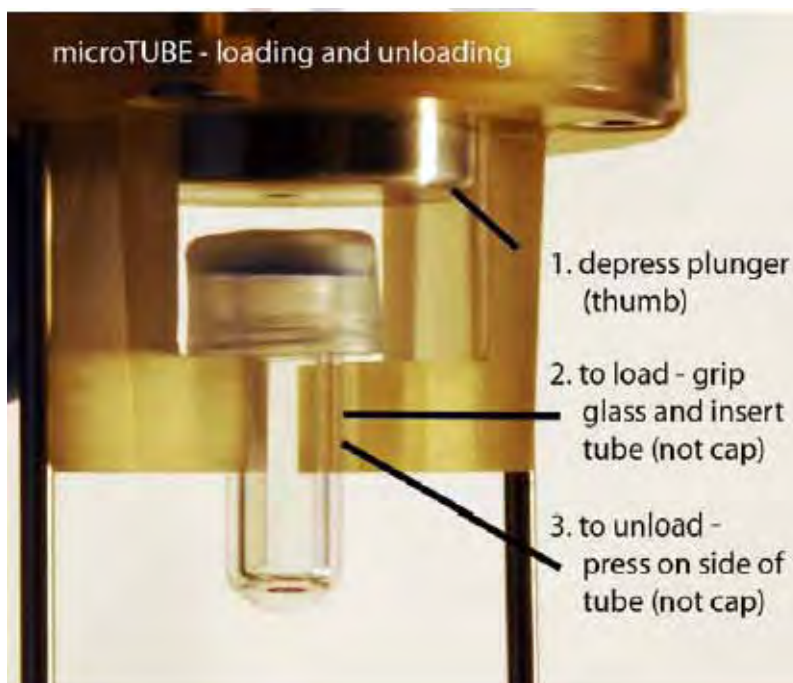

Figure 27 How to load and unload a microTUBE vial from the microTUBE holder.
3. Use a finger to press against the middle of the glass tube (*not* against the cap). With a single motion, push the tube between the prongs to position the tube (see Figure 27).
2. Press against the side of the glass tube (*not* against the cap) to free the microTUBE from the grip of the holder (see Figure 27).